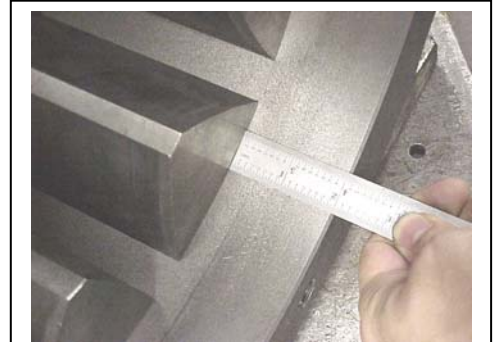

Figure 24
2. Measure the distance between the rotor teeth and the outer face of the casing. Figure 24.